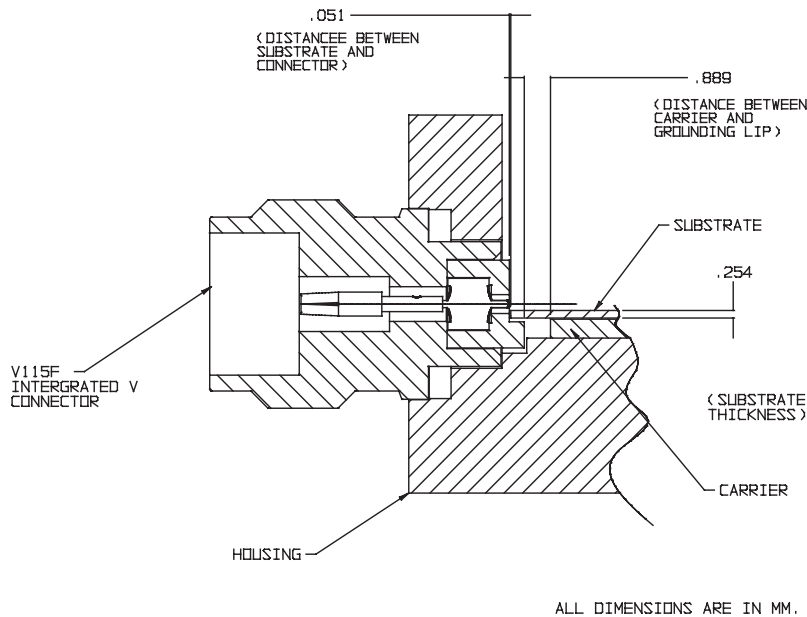

Figure 3. V115FMS75 Assembly
4. Installation of Substrate (Figures 3 and 4)